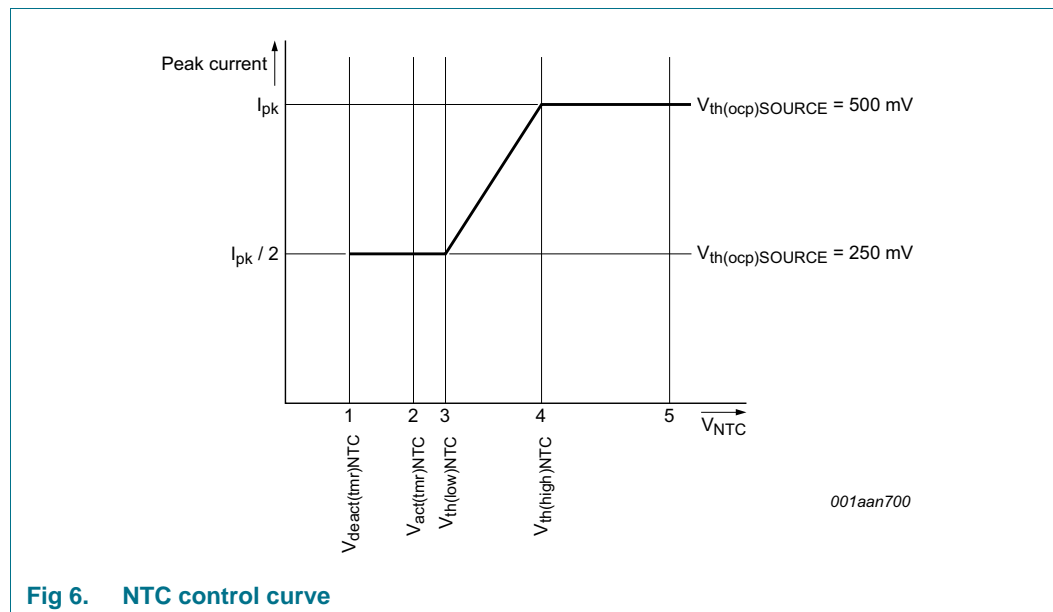

Fig 6. NTC control curve
The NTC pin can be used as a control method for LED thermal protection. Alternatively, the pin can be used as an input to disable/enable light output using a digital signal (PWM regulation). The pin has an internal current source that generates the current of  $I_{offset(NTC)}$ . An NTC resistor to monitor the LED temperature can be connected directly to the NTC pin. Depending on the resistance value and the corresponding voltage on the NTC pin, the converter reacts as shown in Figure 6.
When the voltage on the NTC pin exceeds  $V_{th(high)NTC}$  (see Figure 6 (4)), the converter delivers nominal output current. When the voltage is lower than this level, the peak current is gradually reduced until  $V_{th(low)NTC}$  is reached (see Figure 6 (3)). The peak current is now half the peak current of nominal operation. When  $V_{act(tmr)NTC}$  is passed (see Figure 6 (2)), a timer starts to run to distinguish between the following situations:
- If the low-level  $V_{deact(tmr)NTC}$  is not reached within time  $t_{to(deact)NTC}$  (see Figure 6 (1)), LED overtemperature is detected. The IC stops switching and attempts to restart from the HV pin voltage. The converter restarts from an NTC protection shutdown when the voltage on the NTC pin exceeds  $V_{th(high)NTC}$  (see Figure 6 (4)). It is assumed that the reduction in peak current does not result in a lower NTC temperature and LED OTP is activated.
- If the low-level  $V_{deact(tmr)NTC}$  is reached within the time  $t_{to(deact)NTC}$  (see Figure 6 (1)) it is assumed that the pin is pulled down externally. The restart function is not triggered. Instead, the output current is reduced to zero. PWM regulation and consequently output LED current regulation can be implemented this way. The output current rises again when the voltage exceeds  $V_{th(low)NTC}$ .
The NTC pin can be used to make a soft start function. During switch-on, the level on the NTC pin is low. By connecting a capacitor (in parallel with the NTC resistor), a time constant can be defined. The time constant causes the level on the NTC pin to increase slowly. When passing level  $V_{th(low)NTC}$  (see Figure 6 (3)), the converter starts with half of the maximum current. The output current slowly increases to maximum when  $V_{th(high)NTC}$  (see Figure 6 (4)) is reached.